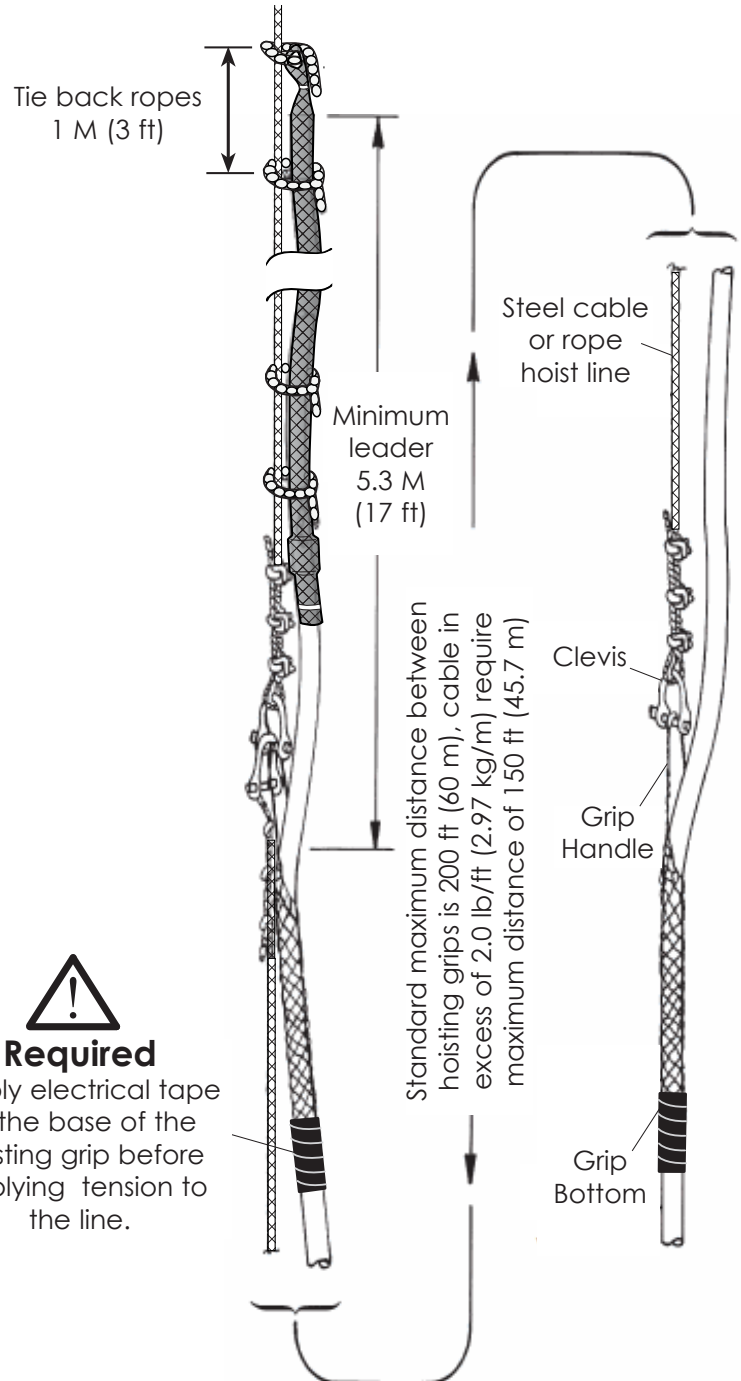

Figure 1
- 1 Place the Hoisting/Support grip(s) at the proper location on the cable as shown in Figure 1. Allow a sufficient length of cable leader to reach the junction point input when cable hoisting and attachment of the grip handle to the support structure is completed.
**7** Attach the hoist line to the grip as shown in Figure 1. Tie the cable leader to the hoist line so that the leader does not dangle. Apply tension slowly to the hoist line to allow the hoisting grip to tighten uniformly on the cable.
**6a** Attach the hoist line to the grip as shown in Figure 1. Tie the cable leader to the hoist line so that the leader does not dangle. Apply tension slowly to the hoist line to allow the hoisting grip to tighten uniformly on the cable.